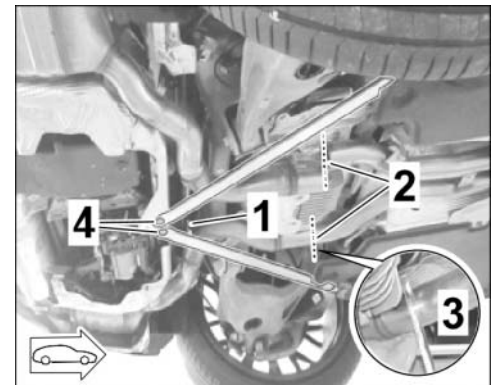

Figure 25
3.3.2 Remove hexagon-head bolt (M8 x 16; 2 x) on strut between the rear silencers (⇒ *Figure 25 -1-*) and remove strut.
3.3.4 Remove hexagon-head bolts (M8 x 20; 2 x) on rear-end cross strut (⇒ *Figure 25 -4-*). ⇒ *Workshop Manual '421319 Removing and installing rear-axle chassis subframe struts'*